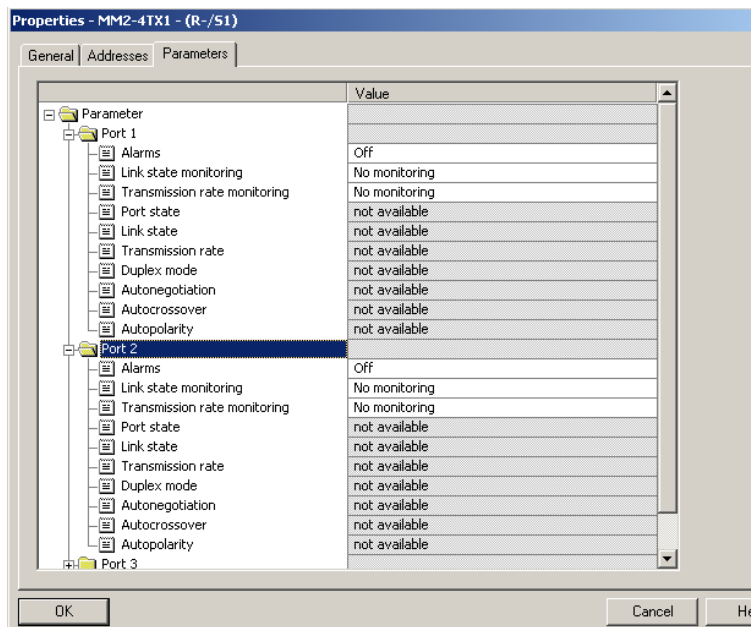

Figure 10: Port properties
- select the desired alarms and close the window (see fig. 10).